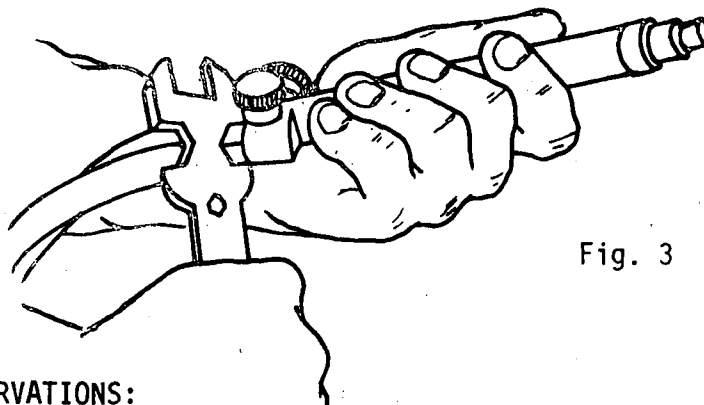

Fig. 3
b) Connect the hoses to the welding torch shank (fig. 3).